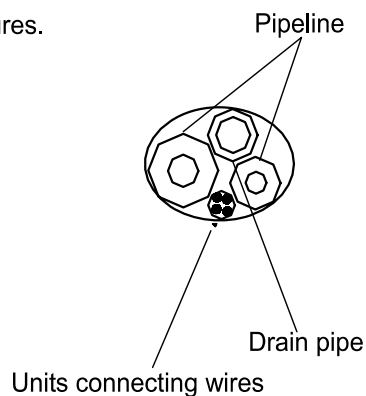

Fig.6
1. Connecting right back tube (similar to right lower tube) (Optional, Refer to Fig.6)